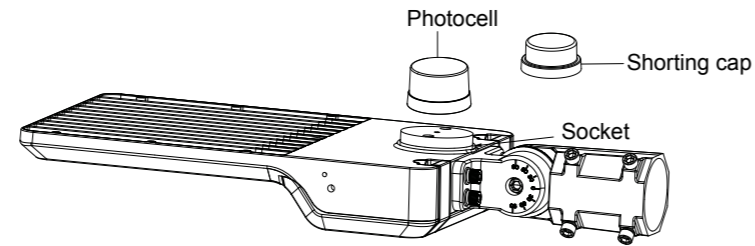

Figure 20
- When the photocell function is required, photocell should be installed on the back of light. When it's not required, shorting cap should be installed on the back of light standard wire (Figure 20)